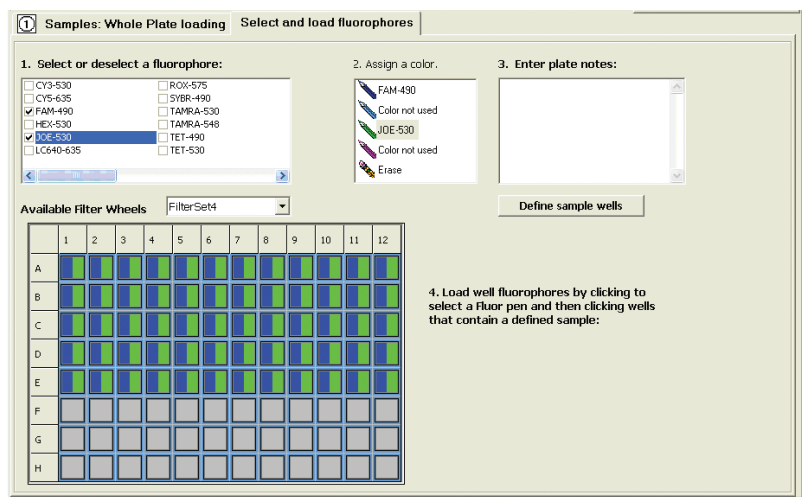

Figure 4. The "Select and load fluorophores" tab in the "Edit Plate Setup" window.
8. Select or deselect the dyes being used from the “Select and load fluorophore” panel. After each dye is selected assign a different color from the four colors listed (Figure 4).